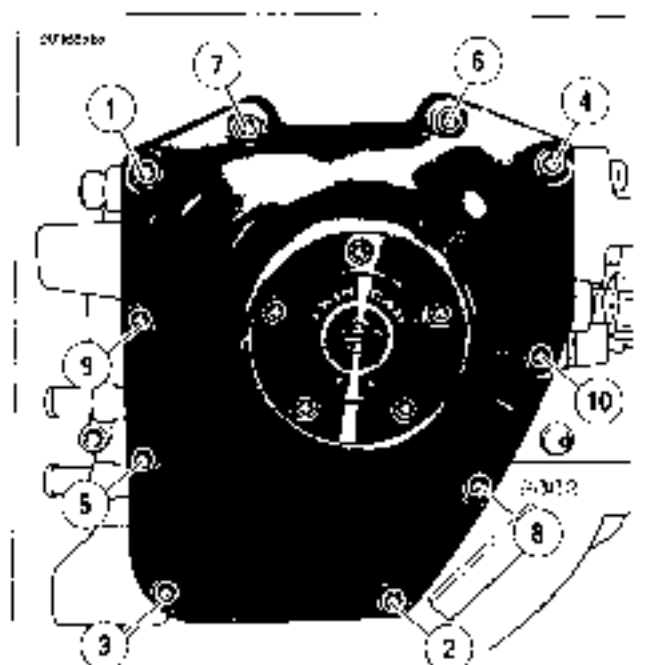

Figure 3-76. Cam Cover Gasket
19. See Figure 3-76. Align holes in new cam cover gasket with those in the crankcase flange.